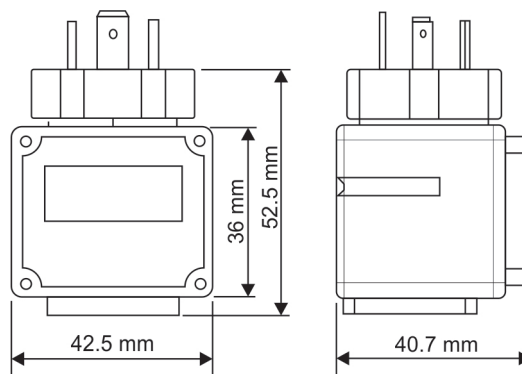

Figure 04 – Dimensions
Figure 04 provides information on the dimensions of the indicator:
**DIMENSIONS:**..... See **Figure 04**